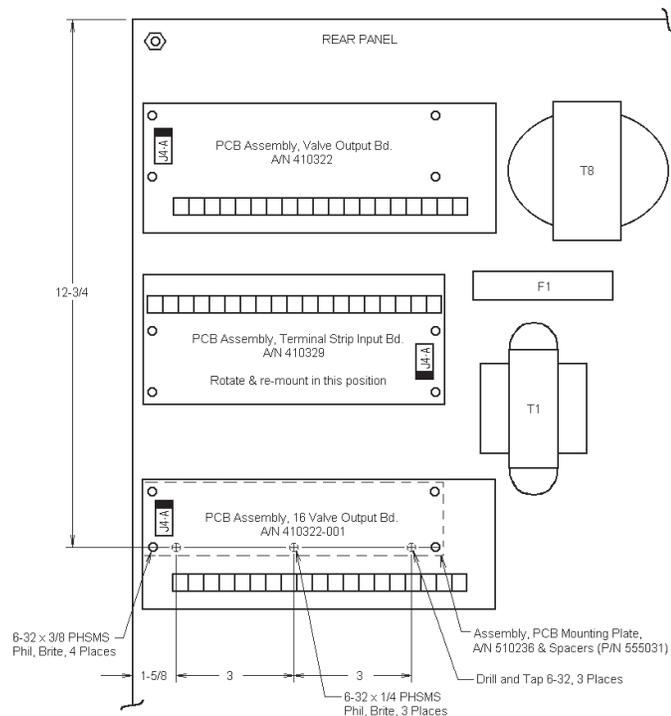

Figure D3. Mounting detail for “L”, “H”, “G”, or “U” Cabinet
3. Remove the four (4) screws holding the Terminal Strip Input Board (A/N 410329) to its mounting bracket. Rotate the board 180° (so the terminal strip is at the top) and re-mount the board using the same four (4) screws.
4. Drill and tap rear panel per Figure D3, be sure to vacuum or otherwise remove ALL metal chips before adding Mounting Plate (A/N 510236) to rear panel using 3 ea. 6-32 x 1/4 PHSMS, Phil Brite. Add extra spacer (P/N 555031) to each existing spacer (4 places) to offset PCB 1" from panel.
5. Mount 9-16 Valve Extension PCB (A/N 410322-001 or -003) to bracket (P/N 510236) using four (4) #6-32 x 3/8 PHSMS, Phil, Brite. See Figure D3.